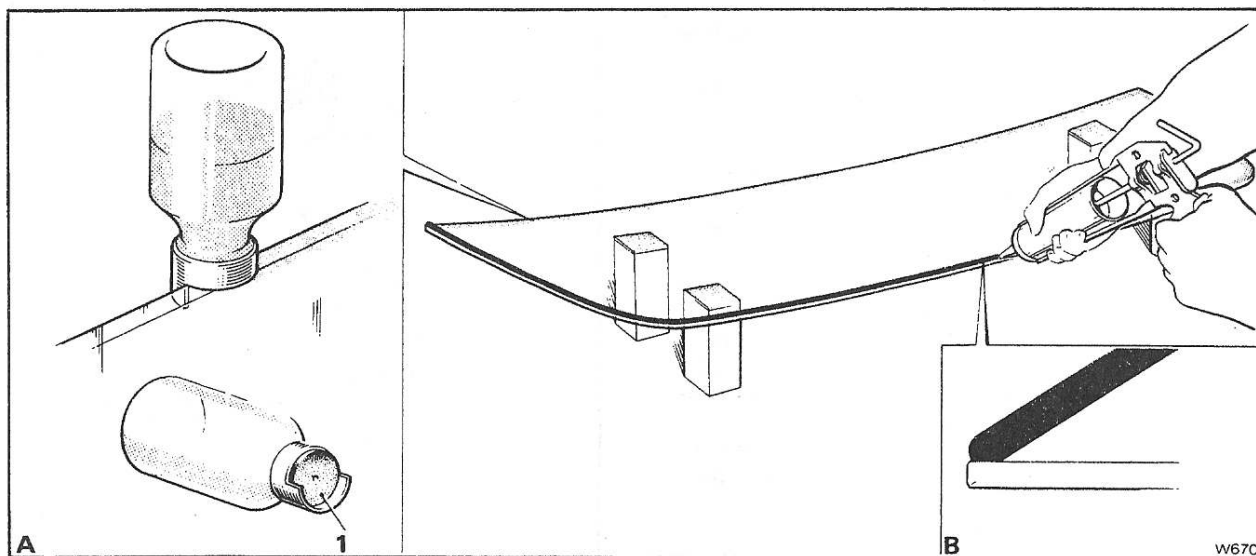

Fig. S143 Applying primer and Betaseal onto the windscreen (Camargue)
8. Apply glass primer, identified by the green ring on the top of the tin, onto the prepared strip of glass to a width of 10 mm. (0.40 in.) from the inside edge (see Fig. S143). Apply with a bottle and felt pads as Operation 7; allow five minutes to dry.
10. Apply a continuous bead of Betaseal Adhesive onto the primed edge of glass (see Fig. S143).